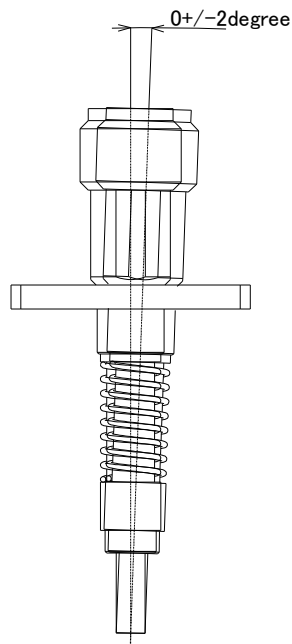

Figure.4 Probe Shape Operation Manual for Auto Measurement probe (MM121650)
3.3 The slant angle tolerance of probe against LSC-Male. (Figure 4)